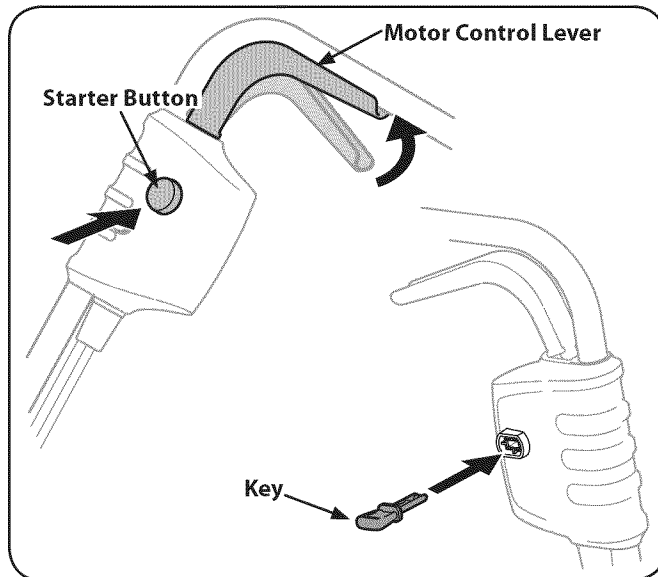

Figure 5-1
2. Insert key. Refer to Fig. 5-1.
4. Press the red starter button and hold it in. See Fig. 5-1.
5. While holding the starter button in, squeeze the motor control lever against the upper handle to start the motor and engage the auger. See Fig. 5-1.